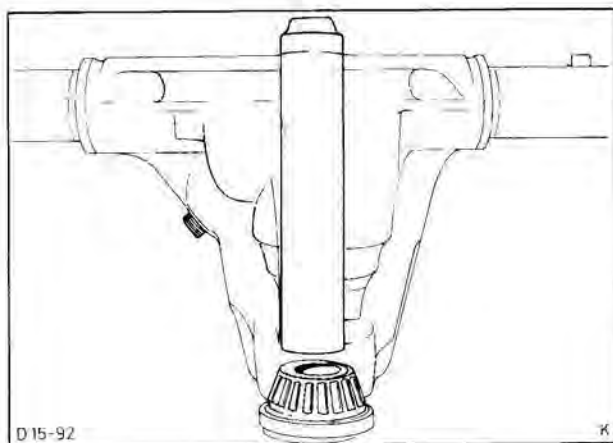

Fig. 59. Press out small taper roller bearing and oil seal
5. Press oil seal and outer taper roller bearing out of casing simultaneously with the Special Tool, Fig. 59.